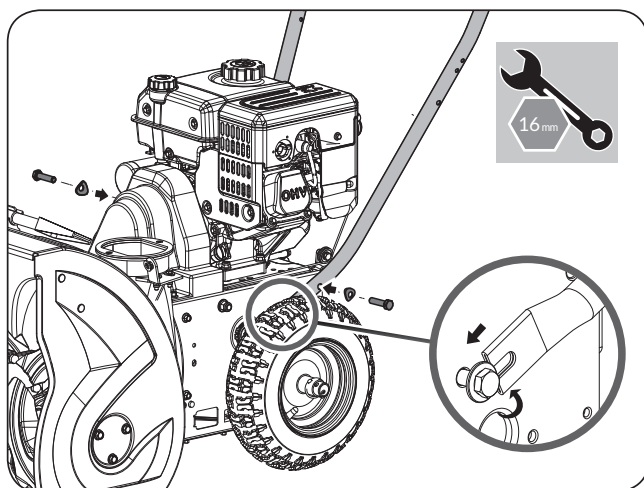

Figure 2
3. Align the holes in the handle with the upper holes on both sides of the transmission housing. Insert the bolts and curved washers and finger tighten to hold in place. (See **Figure 2**)